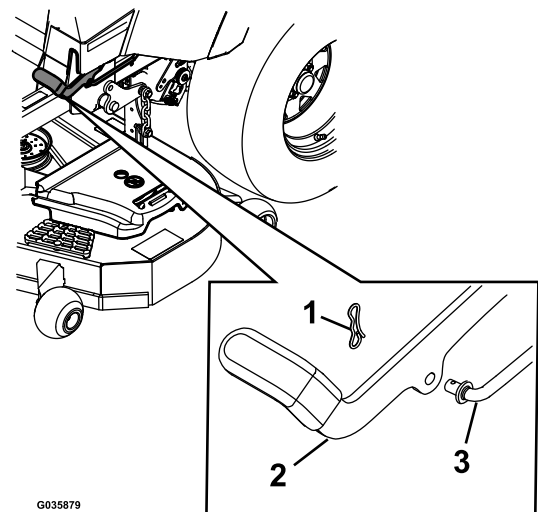

Figure 69
- If adjustment is necessary, disengage the park brake. Remove cotter pin from the brake linkage shaft (see Figure 69).